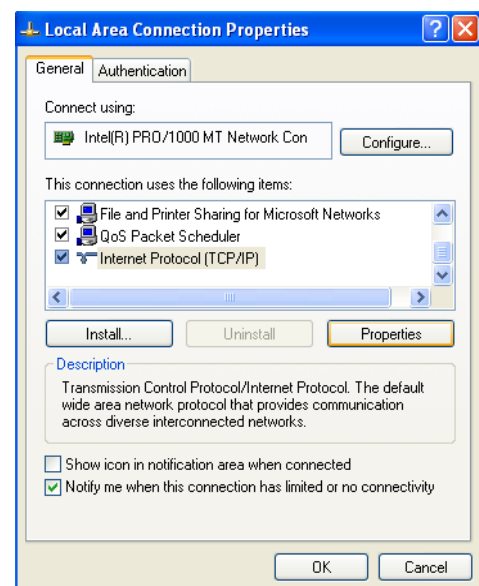

FIG. 10
4. The Local Area Connection Properties window will open. Select Internet Protocol from the listed options. Click on Properties. The Internet Protocol Properties window will appear. See FIG. 10.